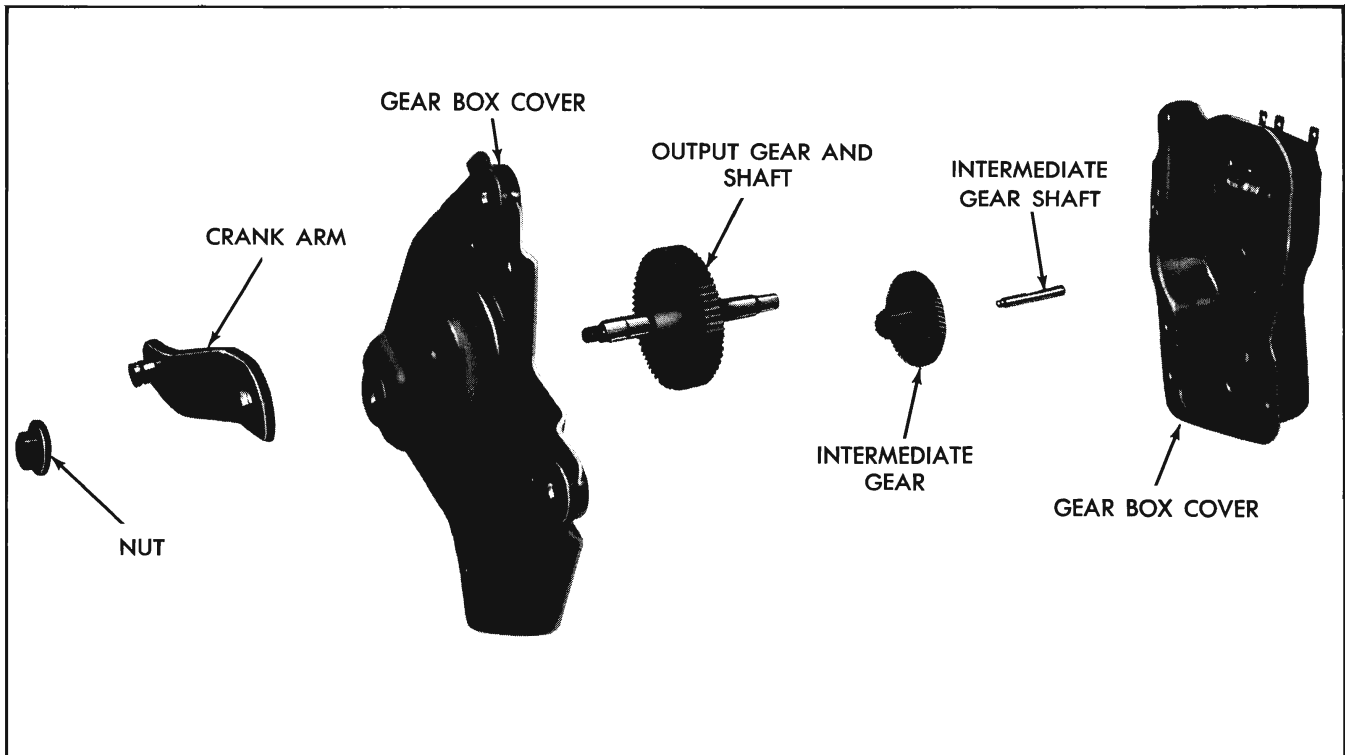

Fig. 11-87 Gear Box Exploded View
5. Remove output gear and shaft assembly, then slide intermediate gear and pinion assembly off shaft. (Fig. 11-87).